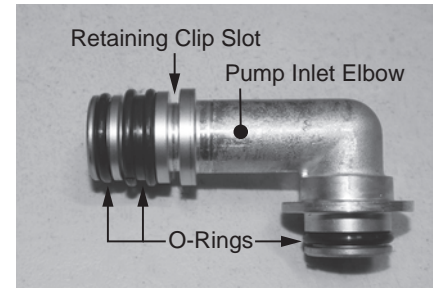

Figure 163 - Pump inlet elbow O-rings
• Locate new pump inlet elbow and three (3) O-rings provided in the kit. The pump inlet elbow uses one (1) 15 x 2.5 O-ring on the inlet side, one (1) 16 x 7 double seal O-ring on the inlet side, and one (1) 15 x 2.5 O-ring on the outlet side. Install O-rings to elbow. Install elbow to water pump and secure with retaining clip. Proceed to **Step 33** if not replacing water pump. See Figure 163.
The pump inlet elbow uses one (1) 15 x 2.5 O-ring on the inlet side, one (1) 16 x 7 double seal O-ring on the inlet side, and one (1) 15 x 2.5 O-ring on the outlet side. See Figure 163.